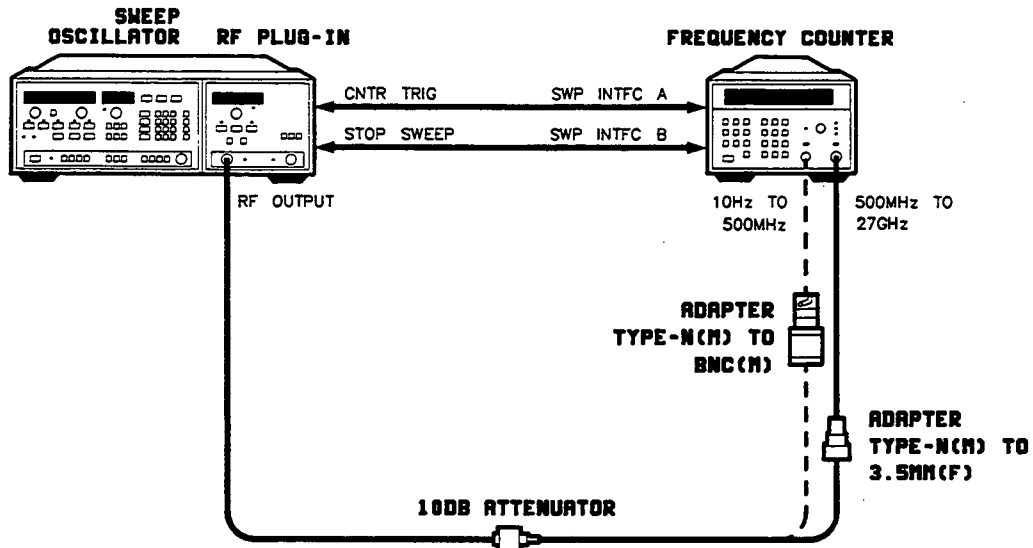

Figure 4-1. Frequency Range and CW Accuracy Test Setup
1. Connect the equipment as shown in Figure 4-1 and press [INSTR PRESET] on the HP 8350/83592B. Allow at least one hour warm-up. Note that the sweep oscillator display indicates a start frequency of 10 MHz and a stop frequency of 20.0 GHz.